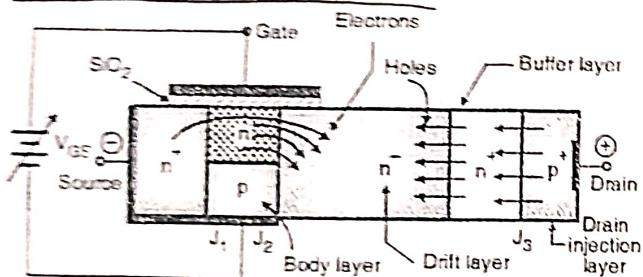

Fig. 2.9.2(b) : Conductivity modulation in IGBT
- In IGBTs also when the positive gate to source voltage V_{GS} is greater than V_{GS} (threshold), n^- type inversion layer is created beneath the SiO_2 (oxide) layer as shown in Fig. 2.9.2(a).
(I-435) Fig. 2.9.2(a) : Creation of an inversion layer
- Due to the formation of n^- type induction layer in the p -type body layer, a channel is formed ($n^+ n^- n^-$) which helps to establish the electron current as shown in Fig. 2.9.2(a).
- The conductivity modulation in the n^- drift layer can be explained with the help of Figs. 2.9.2(a) and (b).
- Due to the creation of inversion layer, electrons from the source are injected into the n^- drift layer via the $n^- p n$ channel (Refer to Fig. 2.9.2(b)).
- In this way "double injection" (of electrons and holes) takes place into the n^- drift region from both sides as shown in Fig. 2.9.2 (b).